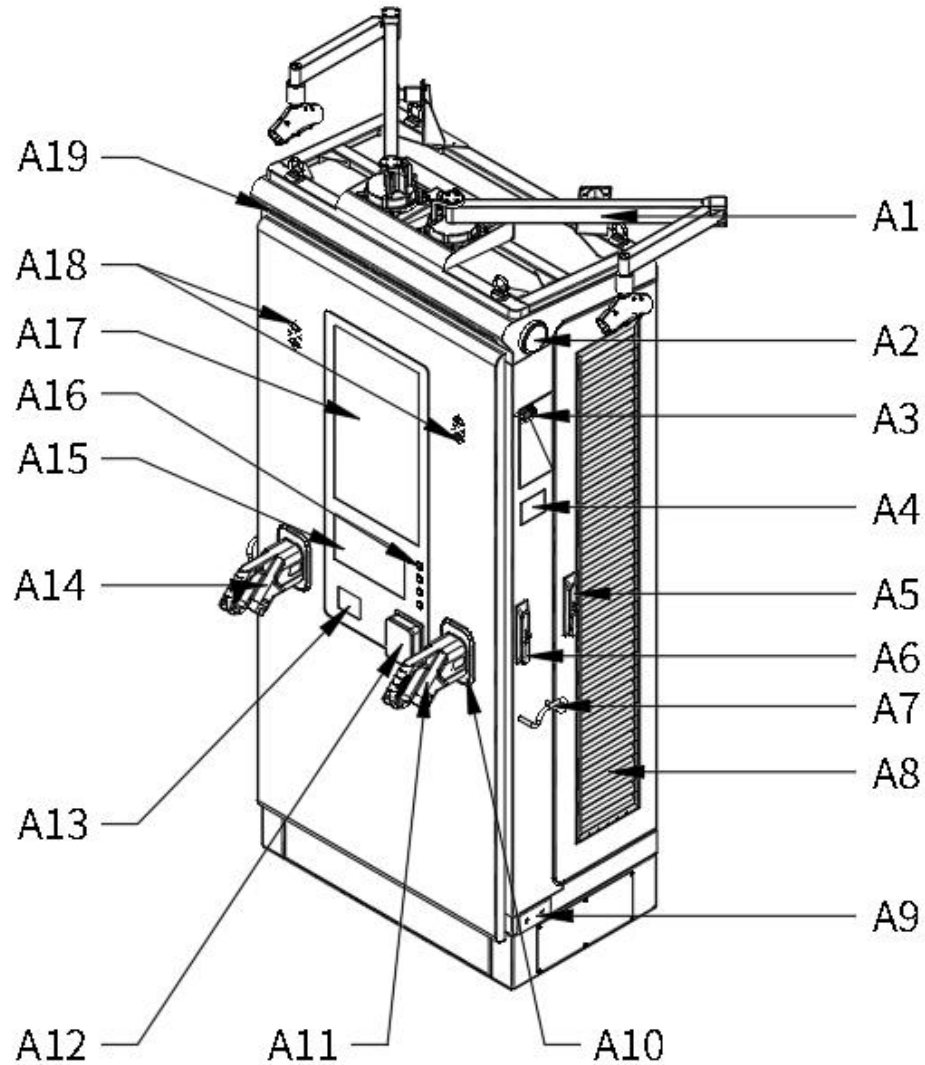
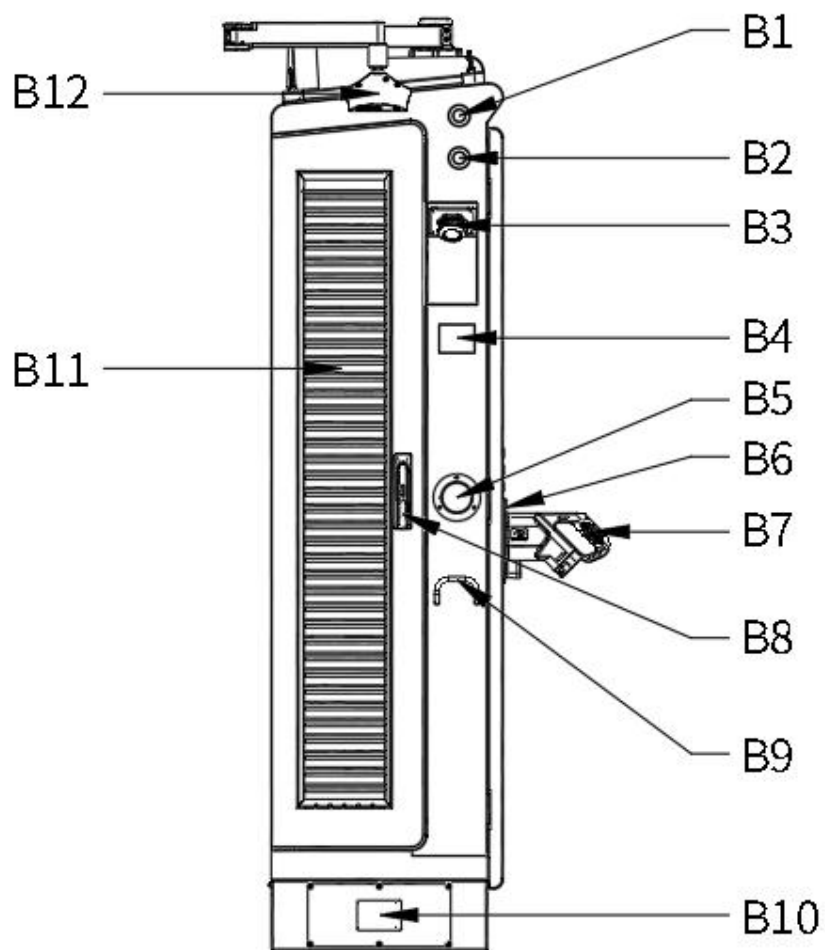

Figure 6 Front View of Component
Figure 7 Side Member View
- (1) The components of the product facade are shown in Figure 6 and Figure 7